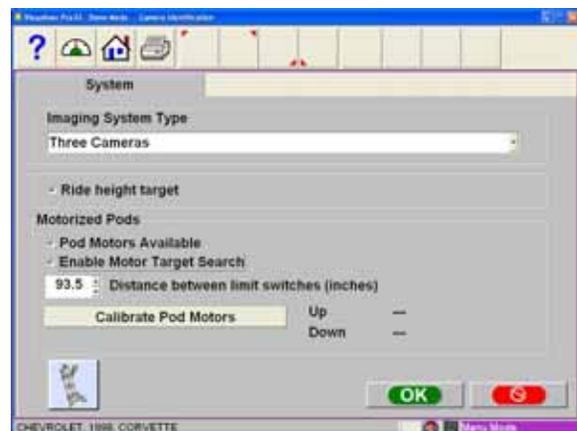

Figure 8
4. Using the mouse, select Manual Mode, then “Go to the bottom” (Figure 8). The motor should power up and move both cameras to the bottom of their travel (bottom shut-off switch).
8. Make sure that the Imaging System Type is set to Three Cameras. (Figure 8)
3. Clamp the front targets to the turntables making sure they are centered on the turntable. Move the left turntable-target assembly out until a portion of the front target can be seen in the left camera view screen (Figure 8). Levers are still all the way out. Mount the right front target on the turntable and move the assembly out to the same distance from the rack centerline as the left turntable-target assembly.